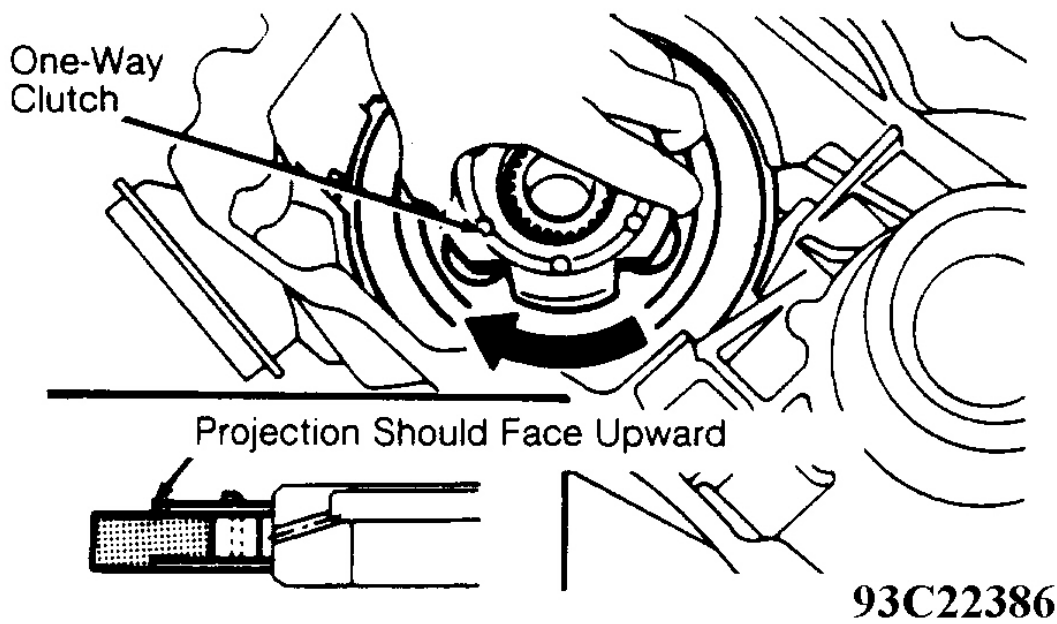

Fig. 26: Installing One-Way Clutch Assembly
9. Install one-way clutch and rear carrier into transaxle case by turning one-way clutch assembly clockwise. Ensure projection on clutch assembly faces upward. See **Fig. 26**.